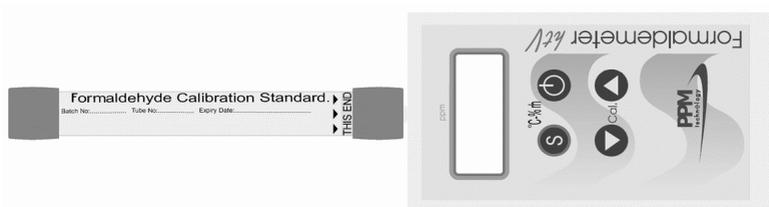

Fig 1.2 Formaldemeter™ htV with Calibration Standard Inserted
3. Insert the instrument nozzle into the sampling end of the Calibration Standard (refer to *fig 1.2*). To ensure a good seal around the instrument nozzle apply gentle pressure to Calibration Standard against the instrument when taking a sample.
of the Calibration Standard (refer to *fig 1.2*). To ensure a good seal around the instrument nozzle apply gentle pressure to Calibration Standard against the instrument when taking a sample.